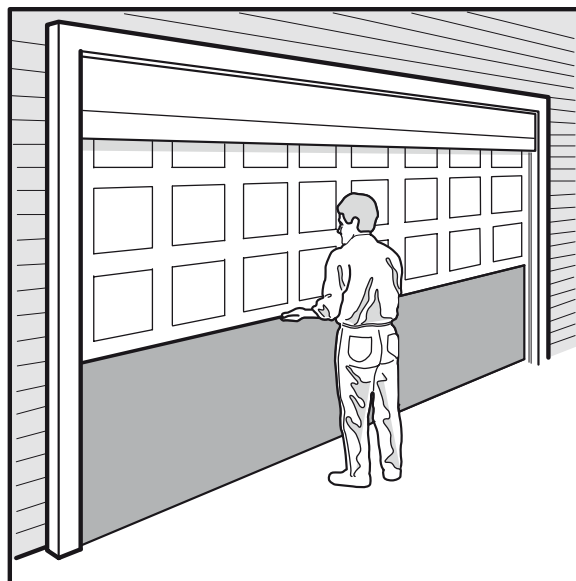

Fig: 3.8.1
- c) Lift the door to about halfway. When released, the door should stay in place. Fig 3.8.1.